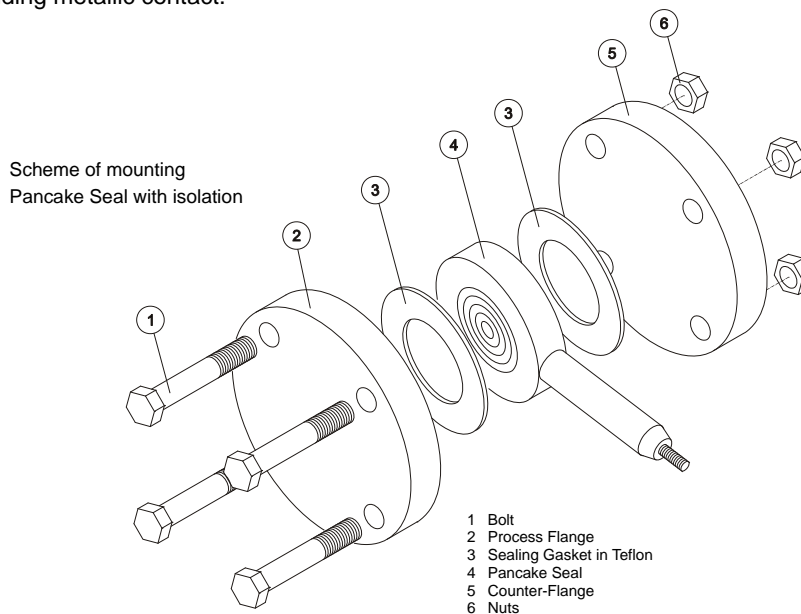

Figure 6.4 – SR301P and SR301Q Electric Insulator Kit
The Figure 6.4 shows this kit which is composed by: Bolts (1), Process Flange (2), Sealing Gasket in Teflon (3), Pancake Seal (4), Counter-Flange (5) and Nuts (6). Note that the “support tube” of the SR301P and SR301Q should not have direct contact with the bolts, process flanges and counter-flange, avoiding metallic contact.